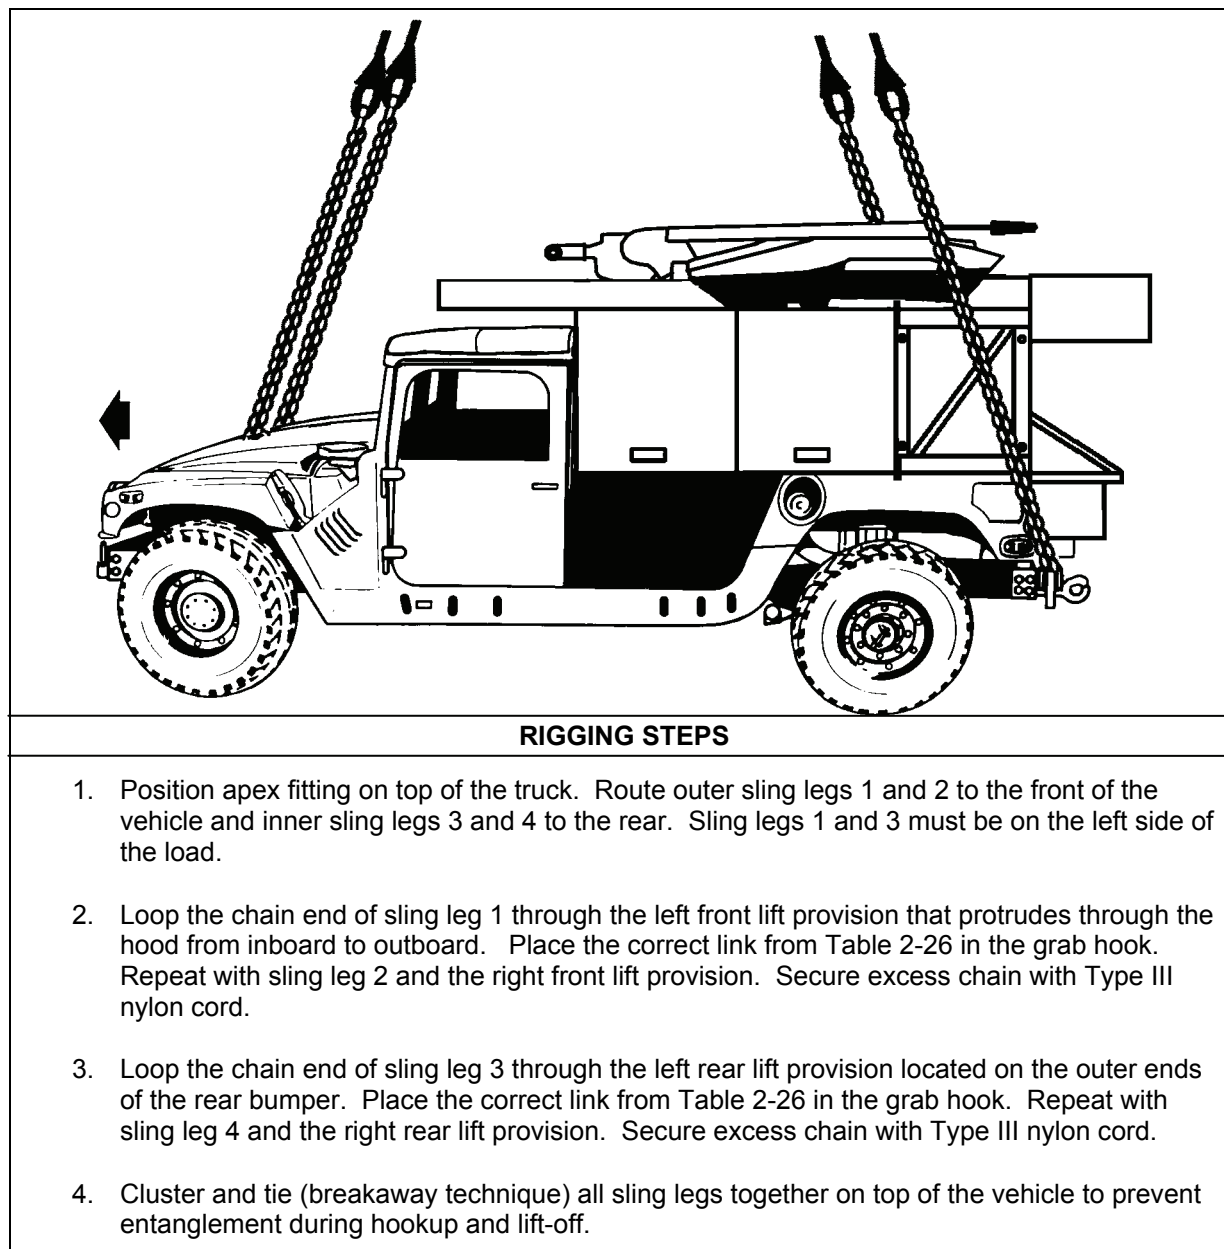

Figure 2-25. Air Traffic Navigation, Integration, and Control System Radar Sensor Pallet on M1113
- **Rigging.** Rig the load according to the steps in Figure 2-25.